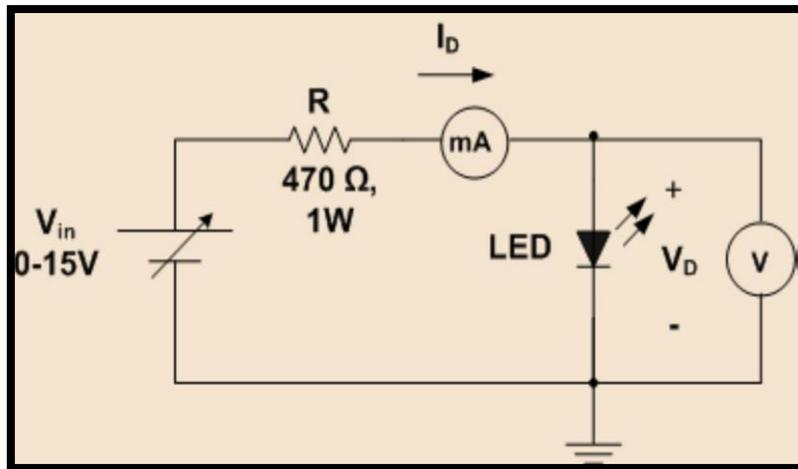

Figure 5: The LED Test Circuit
1. Connect the circuit shown in Fig.5, and increase the input DC voltage from 0V to 15V in several steps. Use red LED and record,  $V_D$  and,  $I_D$  according to Table 2.